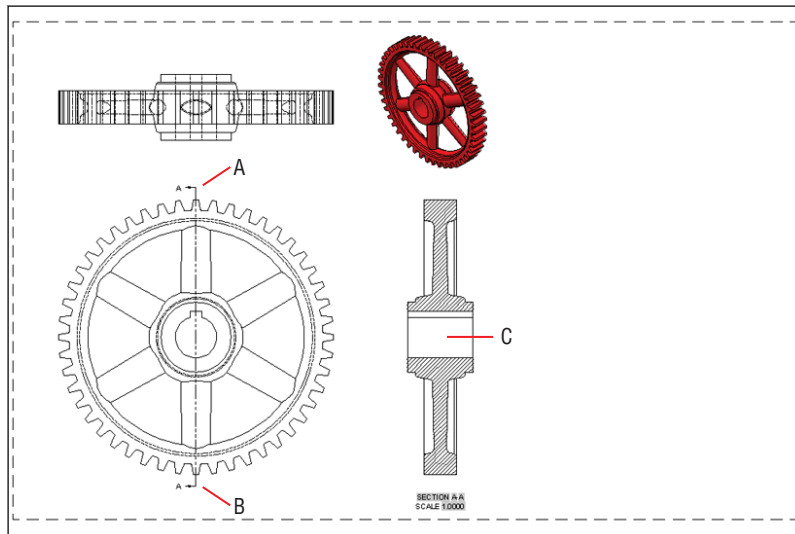

FIGURE 18.24 Creating a section of the base view
11. Click the original plan view you created in the lower left of the layout and press Enter. Click points A and B shown in Figure 18.24 to draw a section cut line and press Enter. Click point C to locate the section view, and press Enter twice to end the VIEWSECTION command.